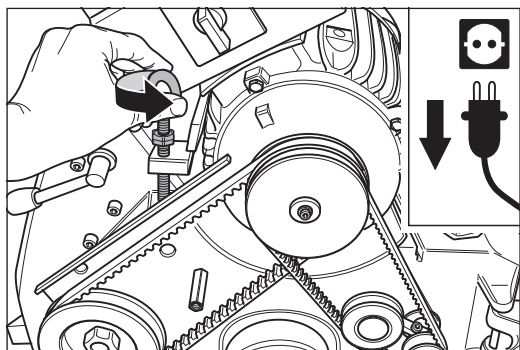

Fig. 25 Release the V-belt tension by loosening the tensioning bolt at the motor.
- 6 Release the tension of the V-belts by turning the tensioning bolt at the motor counterclockwise (Fig. 25).